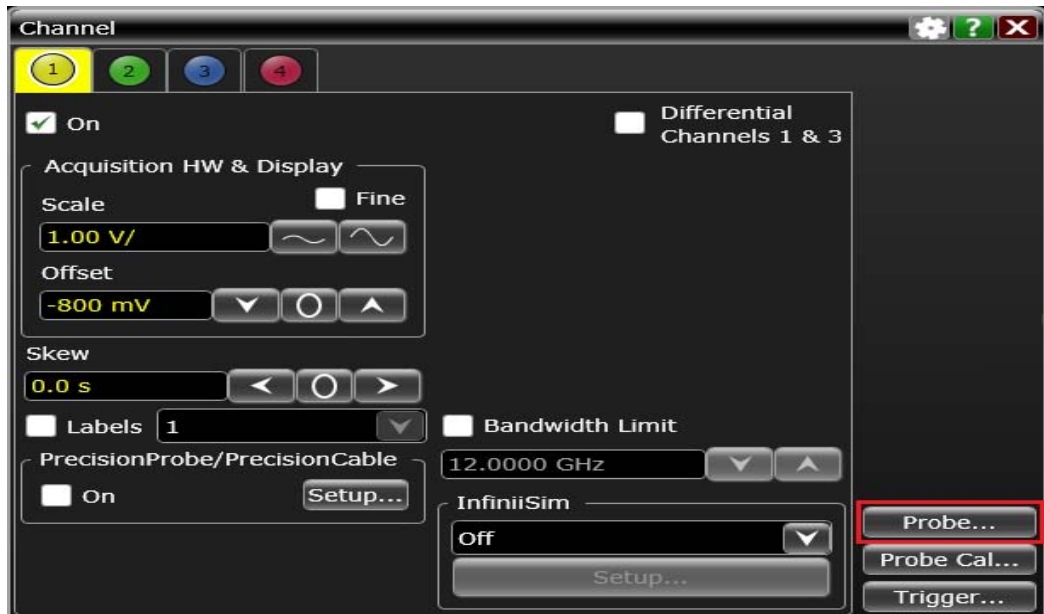

Figure 53 Channel Dialog Box
- 2 In the **Channel** dialog box, select the **Probe...** button, as shown in Figure 53.